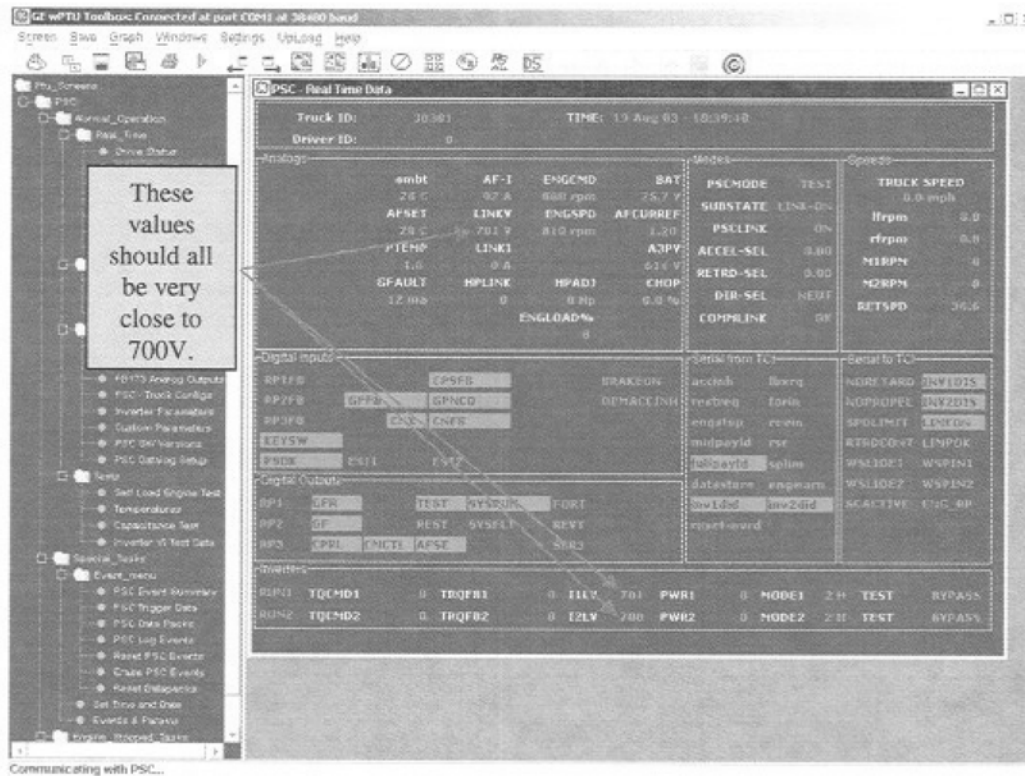

FIGURE 3-12. PSC REAL TIME DATA SCREEN
- ☐ Verify the other values and highlighted functions are similar on the various PSC screens in Figures 3-12 through 3-14.